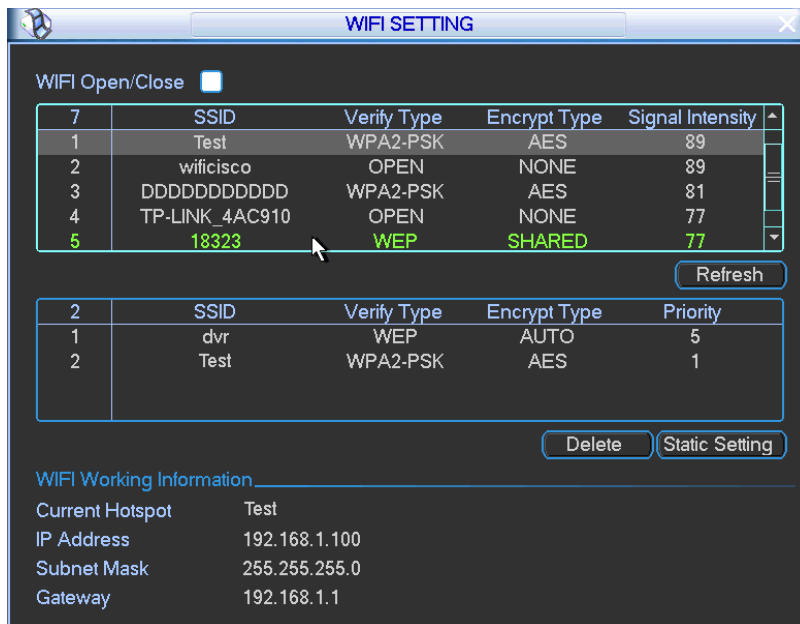

Figure 4-31
- WIFI working information: After system successfully connected to WIFI, you can view hotspot name, IP address, subnet mask, default gateway and etc. See Figure 4-31.